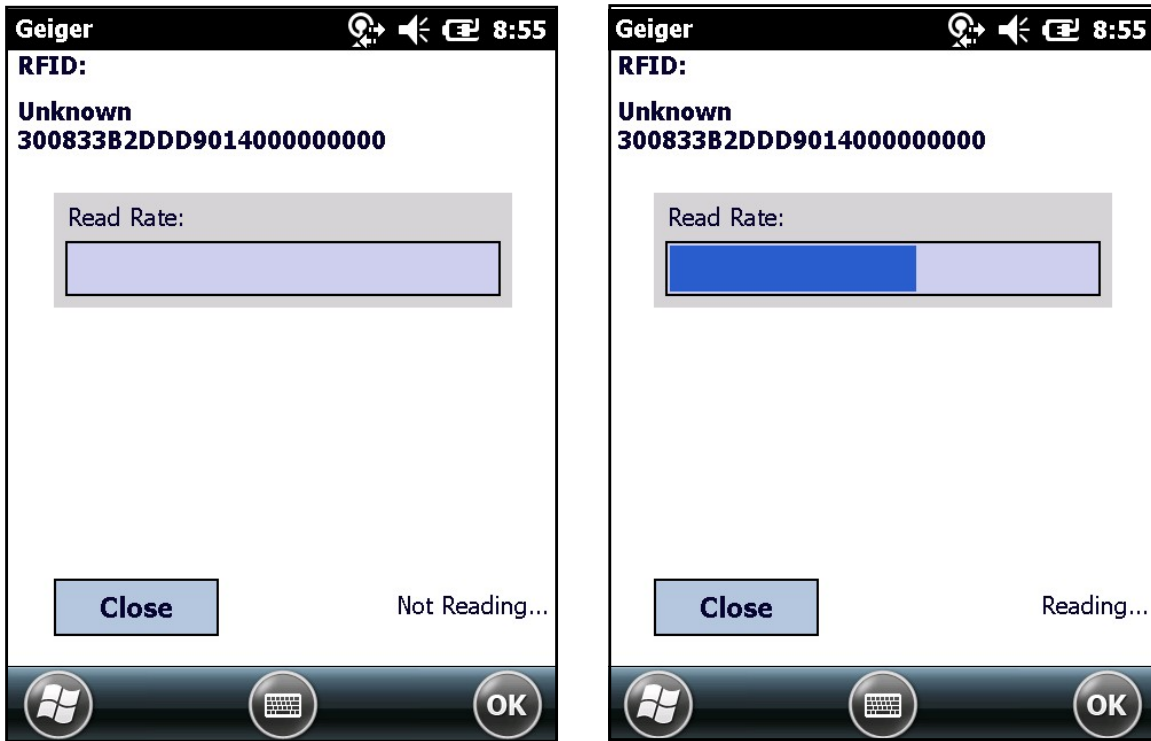

Figure 4-11 Geiger Counter Read Rate
2. Tap one of the missing items. The Geiger Counter screen opens as displayed in Figure 4-11.